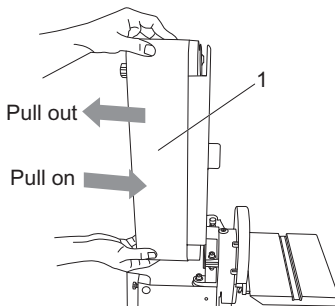

Fig. 35
- > Pull out the old sanding belt (1) and replace a new one. (Fig. 35)